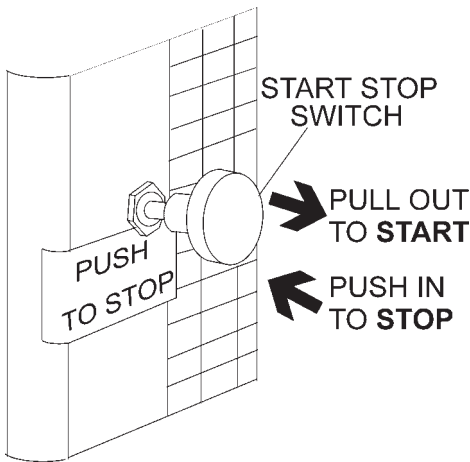

Figure 8. Main ON/OFF Switch
- Located on the engine cover is the main **start/stop** switch (Figure 8). Pull this switch outward to start the engine.
- Push the main **start/stop** switch (Figure 8) inward to stop the engine.